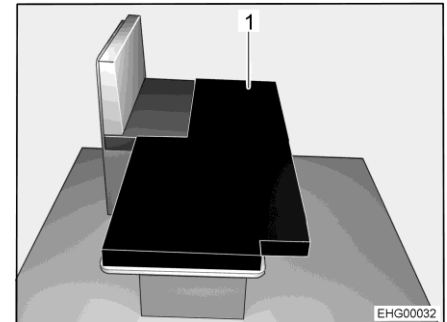

Fig. 45 After conversion
- Place additional cushion (Fig. 45,1) on the lowered table as shown in the image.